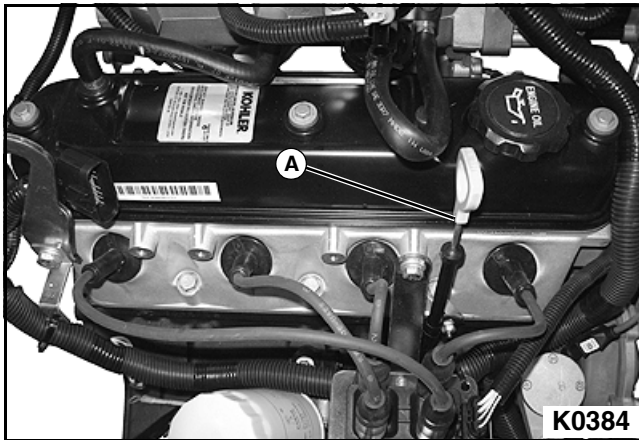

Figure 5-1
2. Pull out the oil dipstick (A). See Figure 5-1.